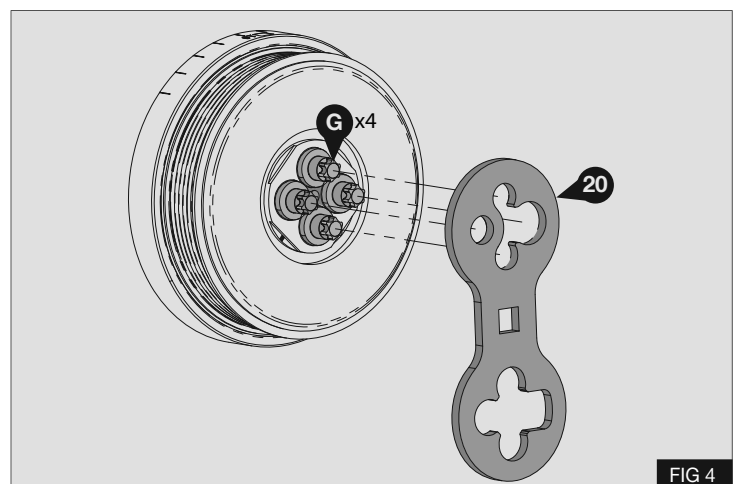

FIG 4
4. Using the supplied tool (20) as a counter-hold loosen each of the original crankshaft pulley securing bolts (G) half a turn - Fig 4
5. Once all the bolts (G) have been loosened remove and discard the 4x bolts (G)